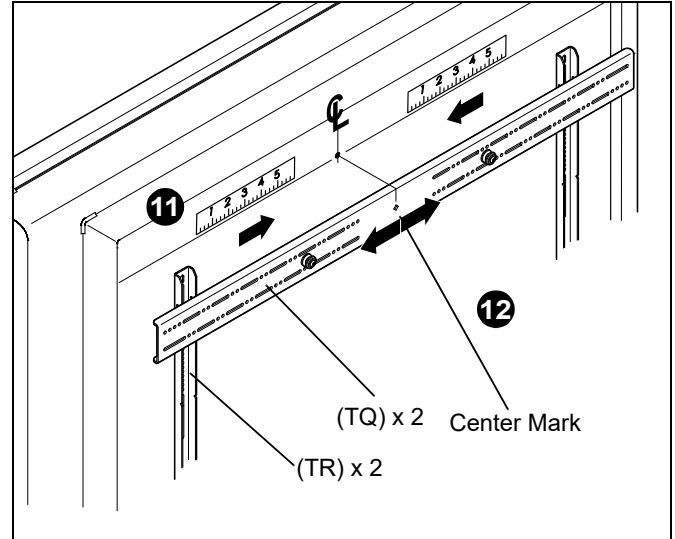
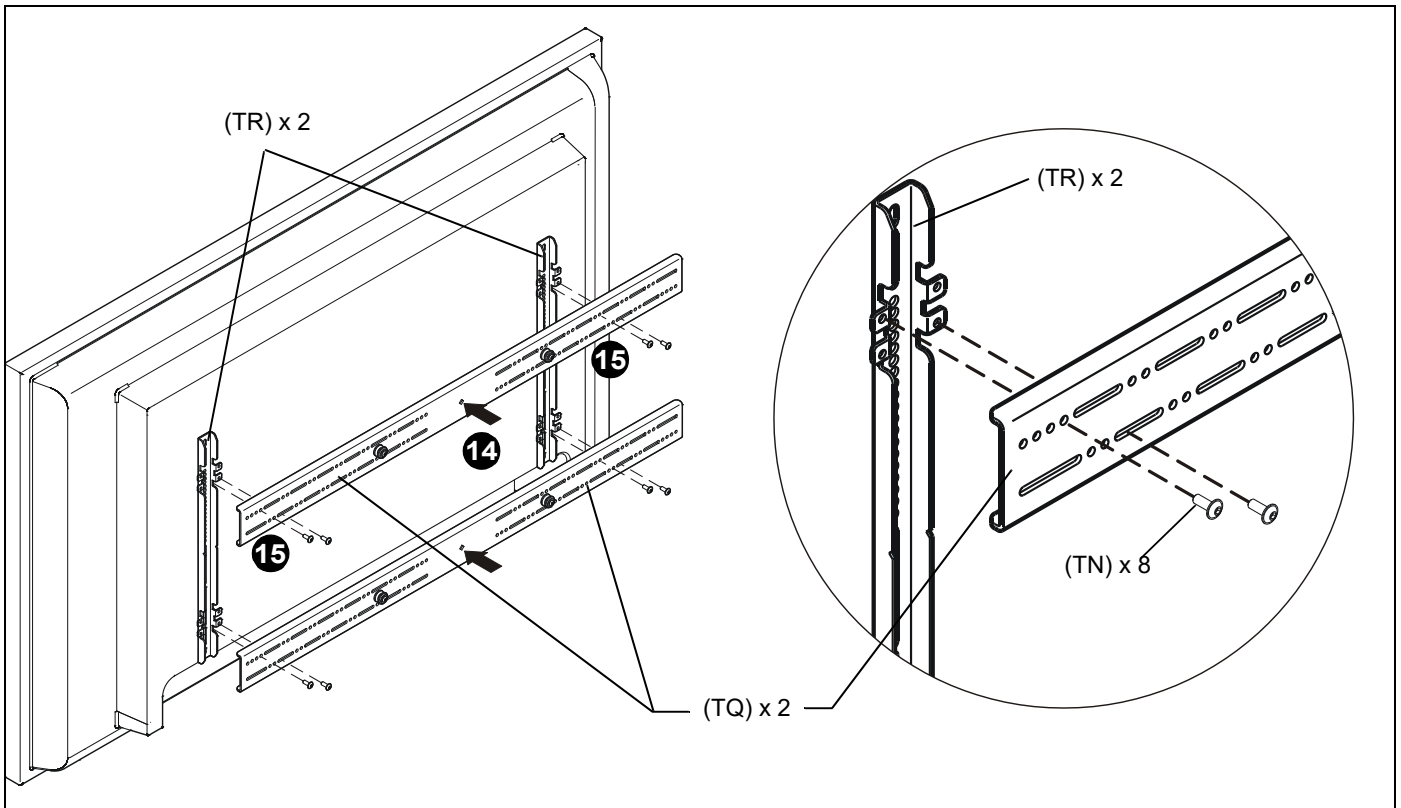

Figure 36
Figure 37
11. Determine and mark the horizontal center position between the Left and Right *TOP* mounting holes in display. (See Figure 36)
12. Determine and mark the horizontal center position between the Left and Right *BOTTOM* mounting holes in display. (See Figure 36)
13. Orient upper horizontal mounting bracket (TQ) so that flanges are facing towards display and resting in recessed area of left and right vertical mounting brackets (TR). (See Figure 36)
14. Adjust Upper horizontal mounting bracket (TQ) position until center diamond in horizontal mounting bracket (TU) aligns with mark made in Step 11, and mounting holes and slots in horizontal mounting bracket (TQ) are aligned with threaded holes in mounting tabs of left and right vertical mounting brackets (TR). (See Figure 36) and (See Figure 37)
15. Use 1/8" hex key (TP) to secure upper horizontal mounting bracket (TQ) to left and right vertical mounting brackets (TR) using four button head flanged screws (TN). (See Figure 37)
16. Repeat Steps 12 through 15 for lower horizontal mounting bracket (TQ).
IMPORTANT ! : The orientation of, and mounting holes used, when installing the lower horizontal mounting bracket must be the same as the upper horizontal mounting bracket. Vertically align upper and lower brackets by aligning holes or end of slots. (See Figure 37)
IMPORTANT ! : Whenever possible install mounting screws diagonally as shown in detail in Figure 37.